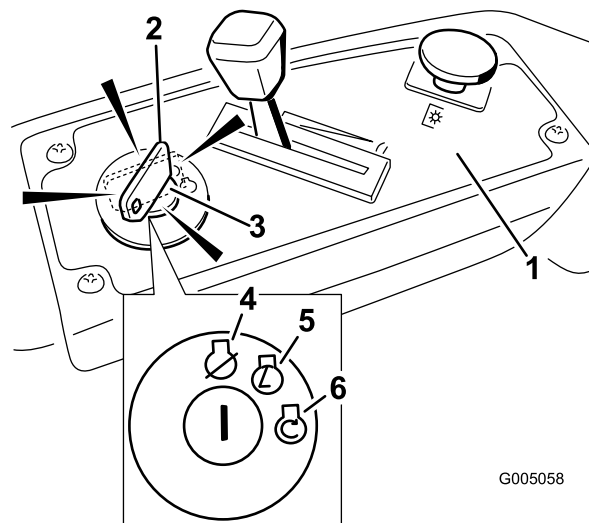

Figure 12
4. Turn the ignition key to Start to energize the starter. When the engine starts, release the key (Figure 12).
2. Move the throttle lever to between Fast and half throttle (Figure 12).